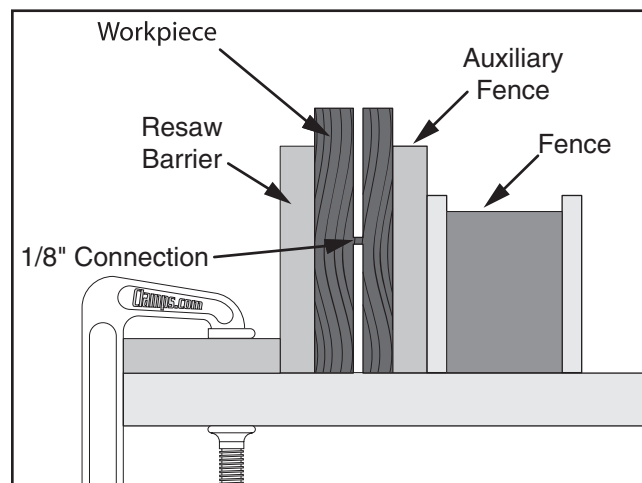

Figure 37. Ideal completed resaw cut.
4. Place the workpiece against the fence and slide the resaw barrier against the workpiece. Now clamp the resaw barrier to the top of the table saw (see **Figure 37**).
6. Raise the blade approximately an inch, or close to half the height of the workpiece (**Figure 37**), whichever is less.
9. Repeat **Steps 6–8** until the blade is close to half of the height of the board to be resawn. The ideal completed resaw cut will leave an $\frac{1}{8}$ " connection when the resawing is complete as shown in **Figure 37**. Leaving an $\frac{1}{8}$ " connection will reduce the risk of kickback.